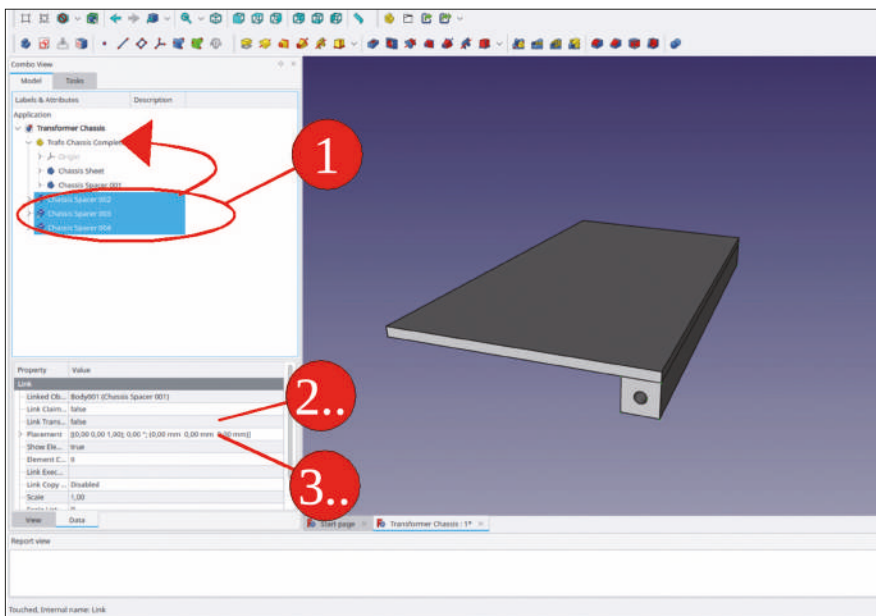

Figure 9-66
38. Using the 'Create link' tool button, create three links of 'Spacer 001'. Drag-and-drop them into 'Trafo Chassis Complete' (Figure 9-66).